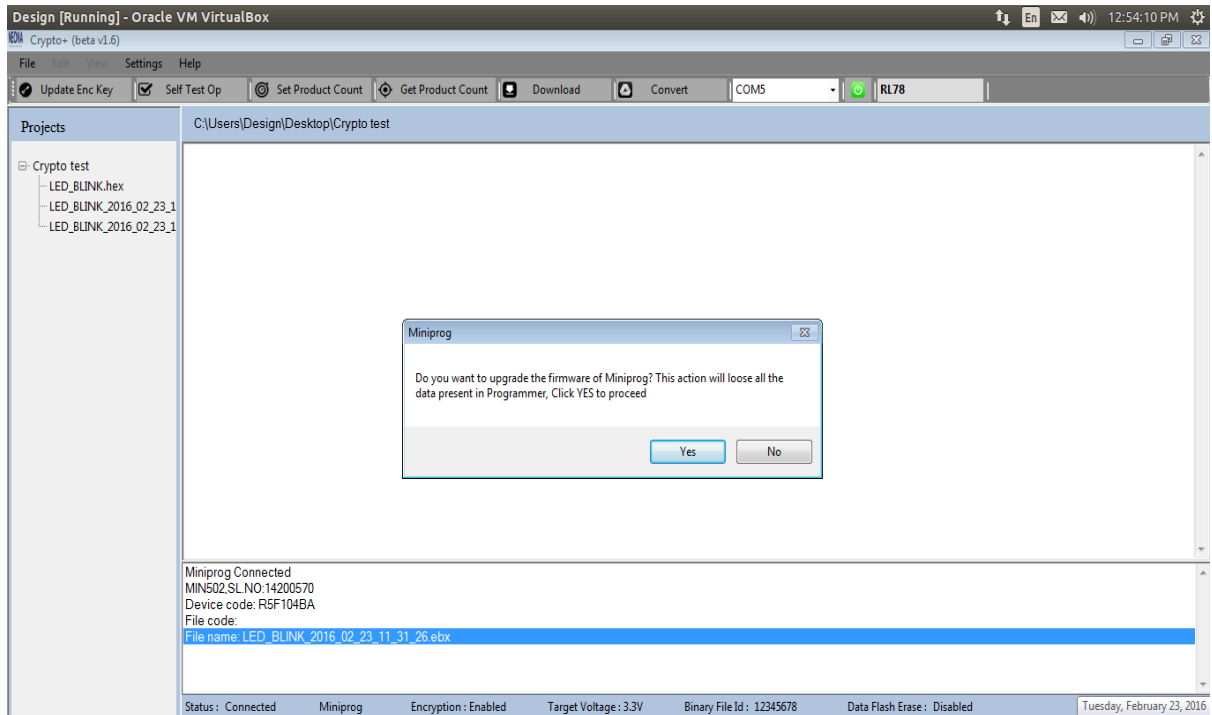

Figure 2.43
STEP 3: A dialog box asking for confirmation will appear as shown in figure 2.43. Click **Yes** to proceed.